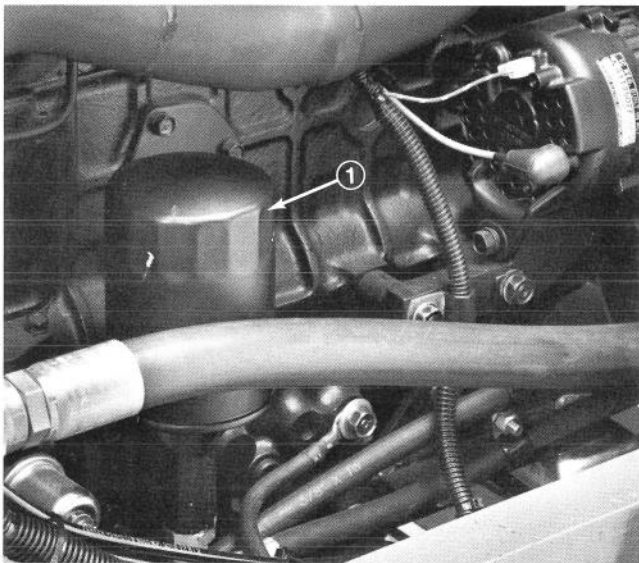

Figure 33
3. Remove drain plug and allow oil to drain into pan. Remove and replace oil filter (Fig. 33); refer to parts catalog for replacement number. Apply a coating of oil to the filter O-ring and tighten filter by hand.